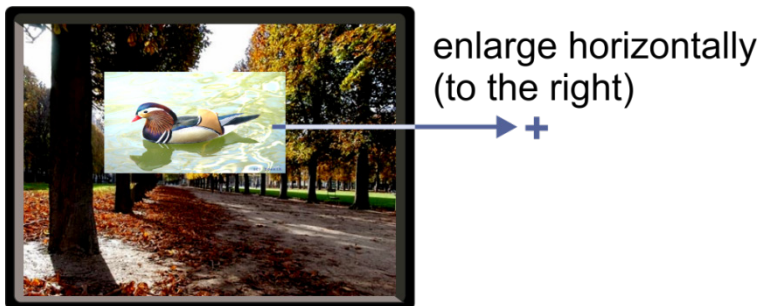

Figure 6: Increasing the Width
3. Select H width (an OSD slide bar appears) and press + to increase the width, or – to decrease the width, see Figure 6.